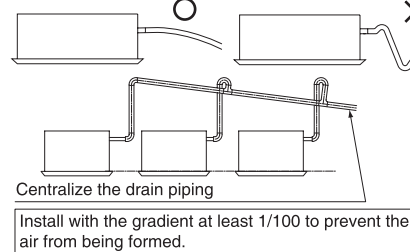

Figure 14
(1) Install the drain piping.
- To prevent the air pockets from being formed, shorten the drain piping as much as possible and slant it downward. The gradient should be 1/100 or more. (Refer to Figure 14)
- Do not twist or bend the drain hose ①, also do not apply excessive force. Failure to do so will result in water leakage.
- To use the converging drain piping, connect in accordance with Figure 14.
(2) Check if the drainage is proper after completing installation.